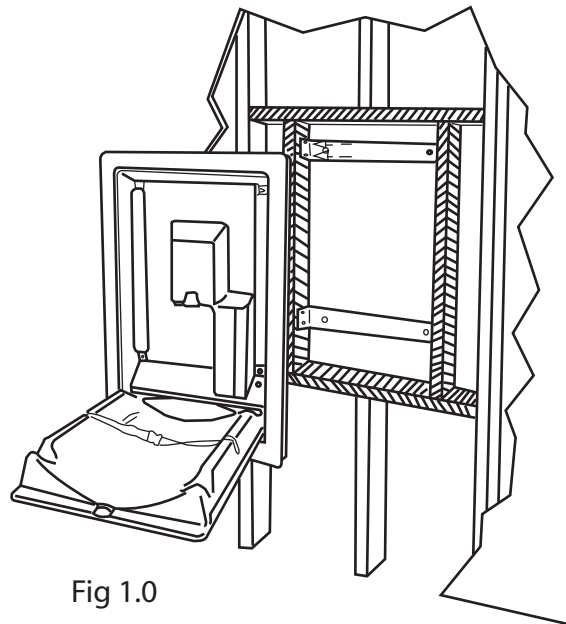

Fig 1.0
2. Select the wall area where the Baby Changing Station will be installed. Measure from the floor, at the center of the stud, and mark the wall at 62" (1575 mm). Hold the unit in place to verify alignment. Cut a hole (22.5" (1575 mm) wide, 36" (902 mm) high, and 4" (102 mm) deep) in the wall and construct mounting frame as shown in Fig 1.0. If the wall surface is masonry or tile over wood studs, use caution when cutting the hole for the unit.
3. The unit comes with two mounting brackets that need to be secured to the mounting frame as shown in Fig 1.0.